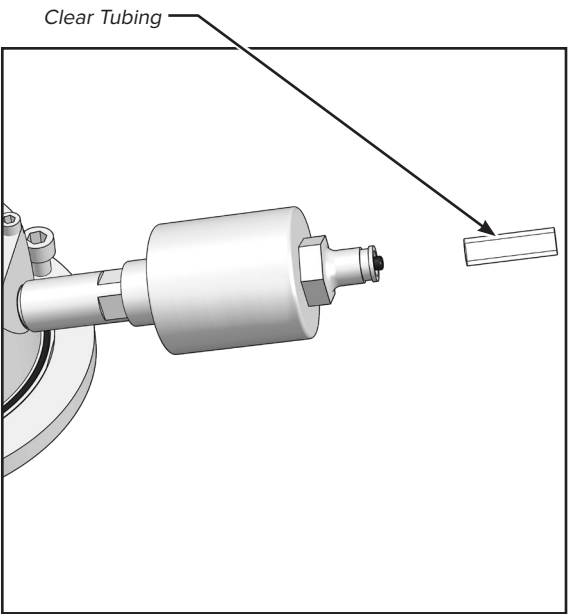

FIGURE 24
- 2. Remove the clear protective tubing (figure 24).